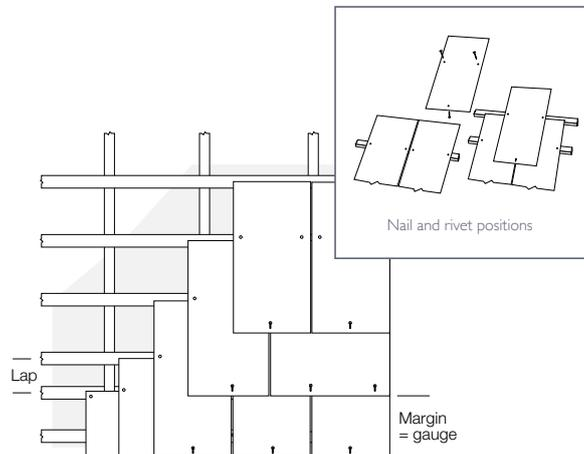

Fig. 12 Continue laying broken bond
- 13 Continue across and up the roof with whole slates, trimming to verges, hips, valley and ridges as necessary (Fig. 12).